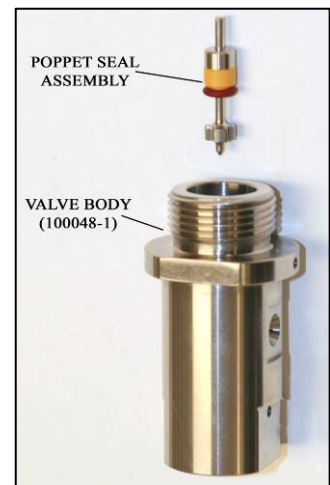

Figure 7
- Insert the Poppet and Seal Assembly into the actuator end of the Valve Body, pointed tip first. **See Figure 7**